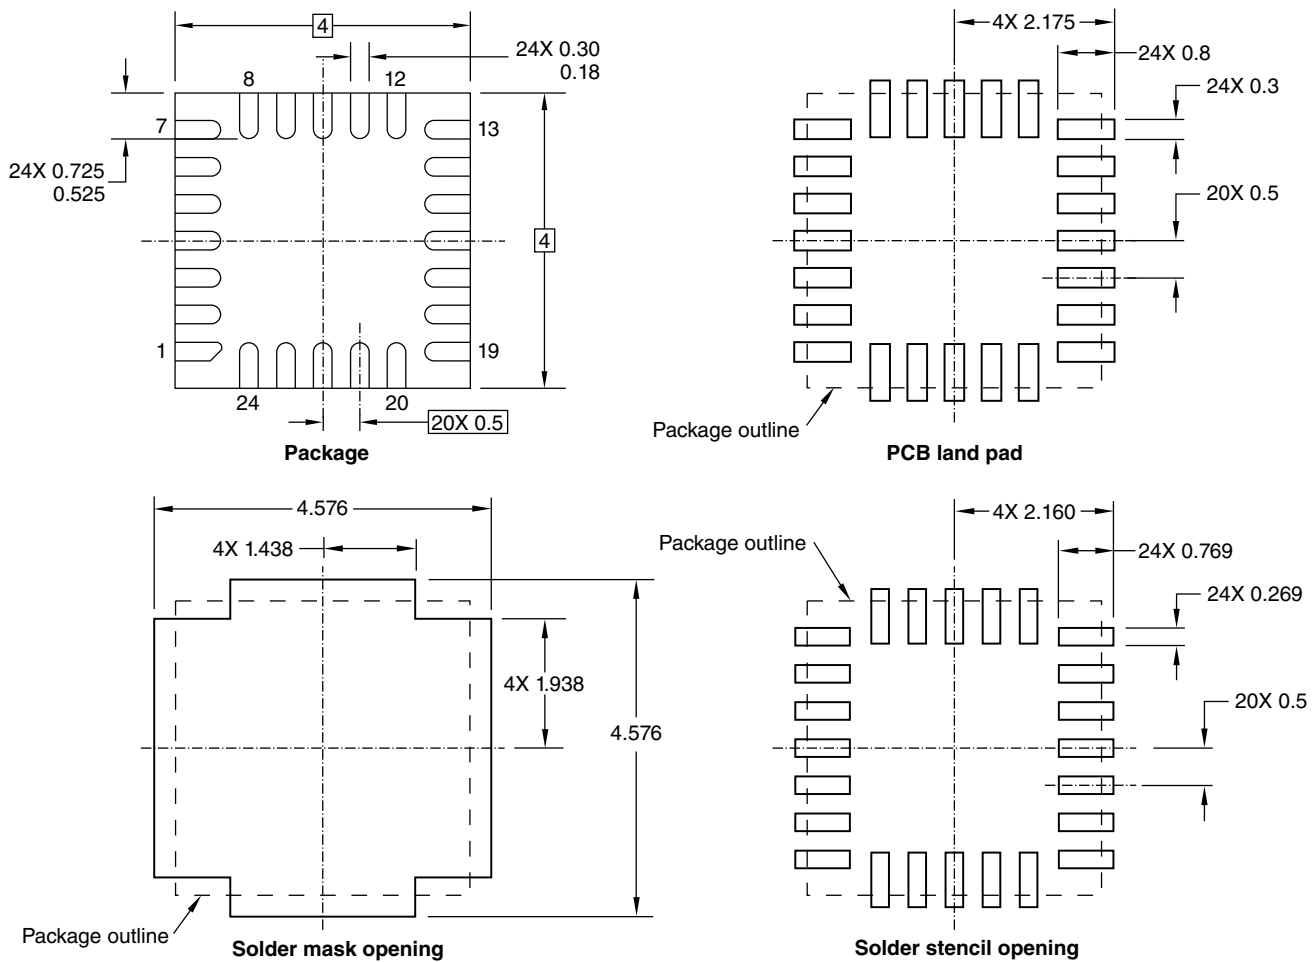

Figure 21. Footprint
The following recommendations are meant to serve as general guidelines for realizing an effective PCB layout. See Figure 21 for component PCB footprint dimensions.
- The PCB land pattern should be designed with Non-Solder Mask Defined (NSMD) as shown in Figure 21.